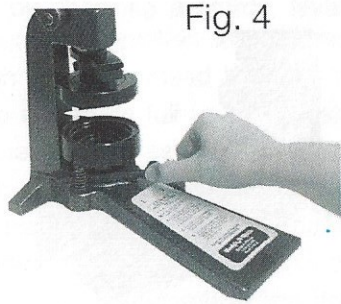

Fig. 4
4. *GENTLY* move the Operation Lever to position #2 as indicated on the machine label (see Fig. 4). Pull the Lever Arm down again until the Upper and Lower Die Sections meet. Continue to pull the arm down until the stop pins under the Lower Die rest on the Operation Lever (see Fig. 3). *GENTLY* release the Lever Arm.